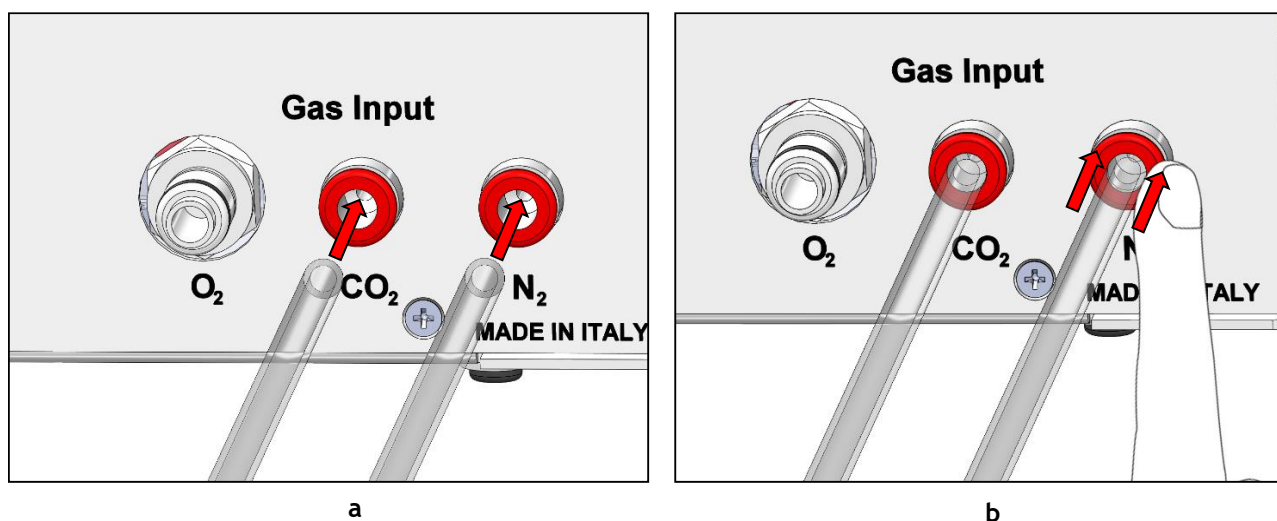

Figure 10. How to connect (a) and disconnect (b) tubings from push to fit connectors.
3. Connect CO₂ and N₂ supply to the corresponding push to fit connectors on the rear panel of CO₂-O₂-UNIT-BL [0-20; 1-95] by using TUBE-A (see Figure 10 a). Set CO₂ pressure at 1.4 barg (20.3 psig). Set N₂ pressure within the range 0.6 – 1 barg (8.7 – 14.5 psig).
To remove tubing from the connectors, push the red rubber ring while pulling the tubing (see Figure 10 b).